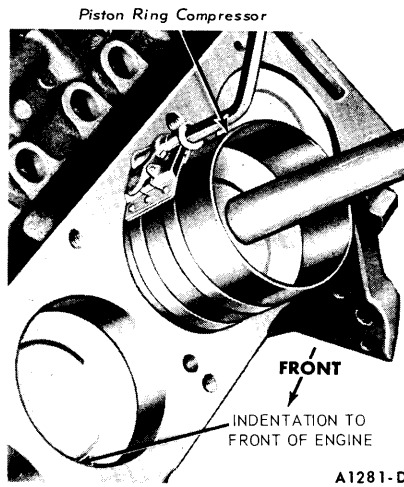

FIG. 42—Piston Installation
4. Install a piston ring compressor on the piston and push the piston in with a hammer handle until it is slightly below the top of the cylinder (Fig. 42). Be sure to guide the connecting rods to avoid damaging the